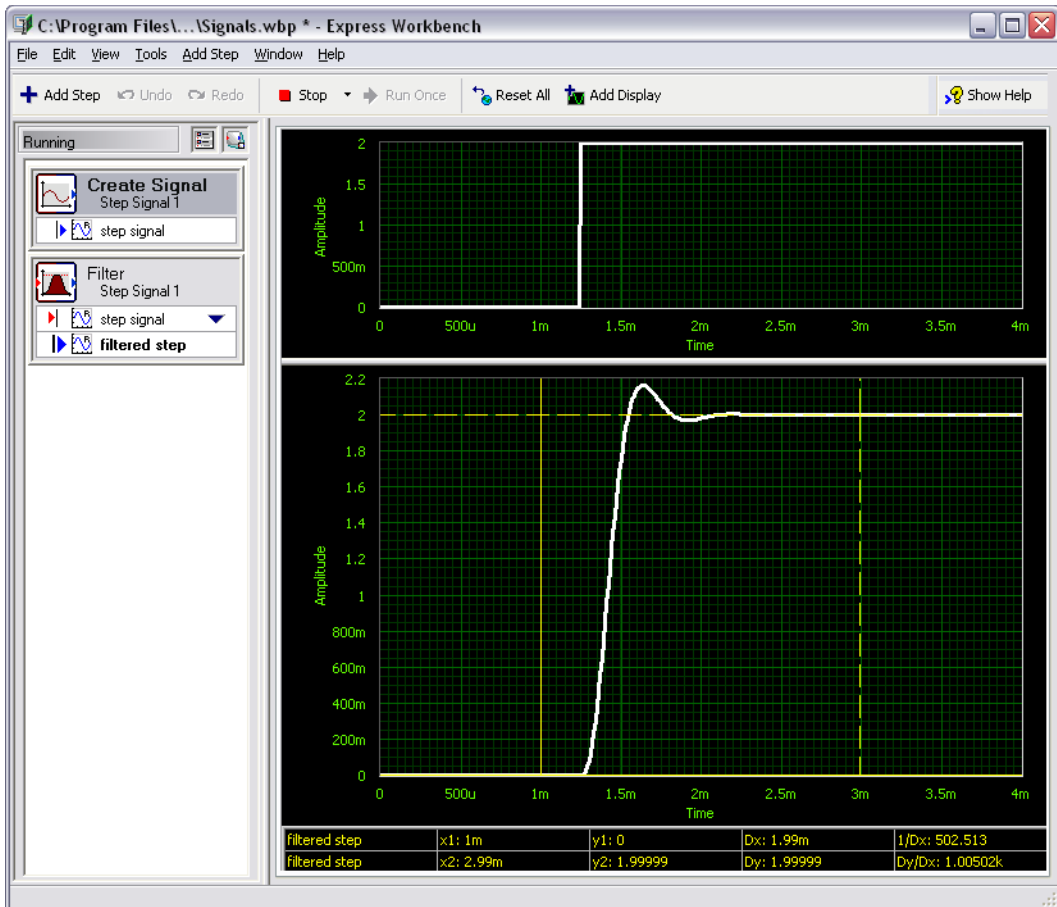

Figure 5-1. Signals.wbp
6. Right-click the new graph and select **Cursors** from the shortcut menu to display two interactive cursors, as shown in Figure 5-1.